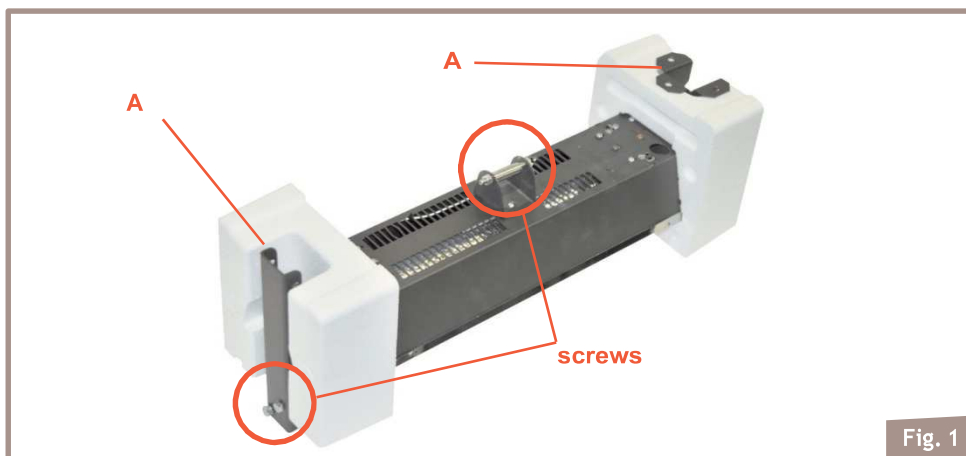

Fig. 1
Parcel contains the appliance and 2 mounting devices (A) with screws (Fig. 1).